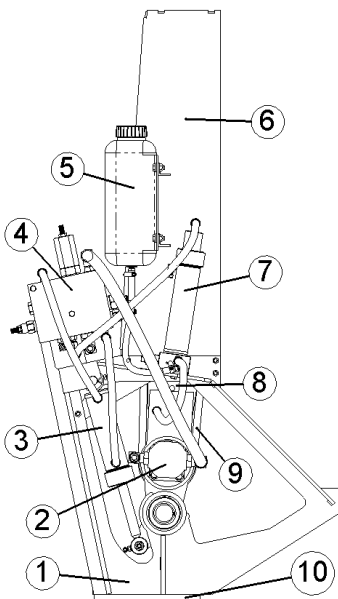
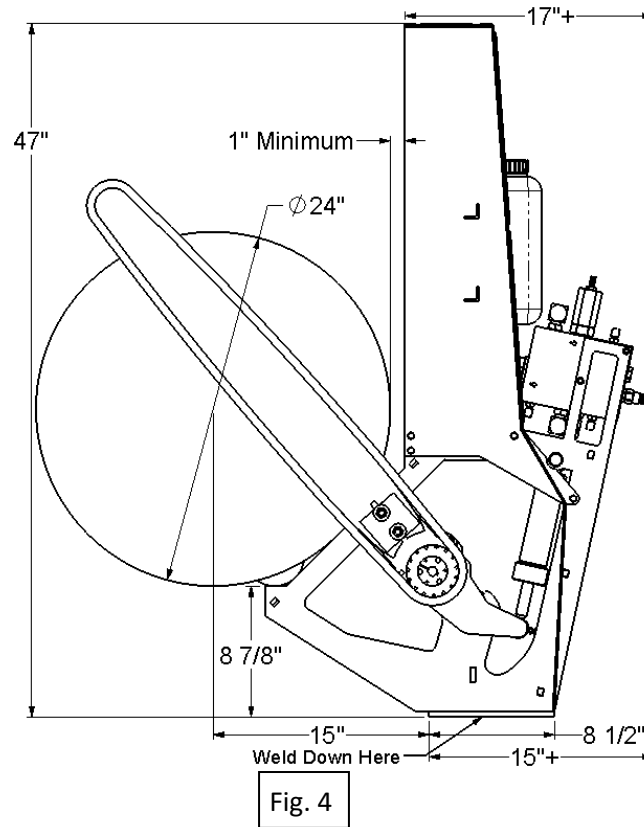

Fig. 1
Fig. 2
When you receive the two boxes containing parts, you will need to reassemble the unit. The larger box (Fig. 2) contains the main frame sub assembly, (Fig.1, items 1 and 2). The smaller long box (Fig. 3) contains the feed cylinder (Fig. 1, item 3), feed and motor control valve (Fig. 1, item 4), bar oil tank (Fig. 1, item 5), bar guard (Fig. 1, item 6), bar oil pump (Fig. 1, item 7), saw bar (Fig. 1, item 8), saw chain (Fig. 1, item 9), weld down mount plate (Fig. 1, item 10), and assembly fasteners.
After assembling the components as shown in figure 1, position the saw bar square to the log, at the correct height with clearance between the bar guard and the side of the largest log and weld down solidly (Fig. 4).